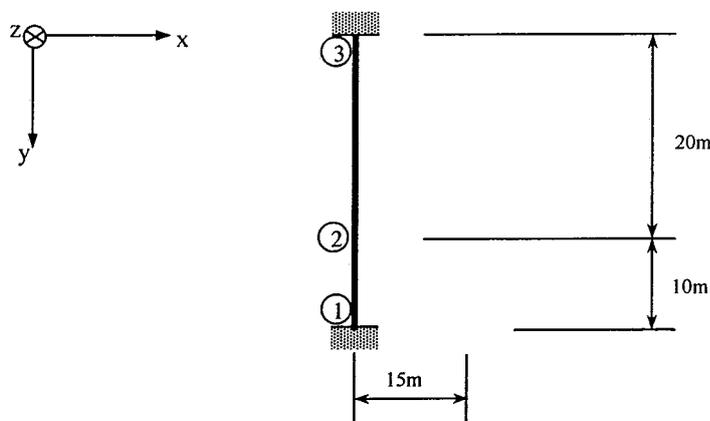
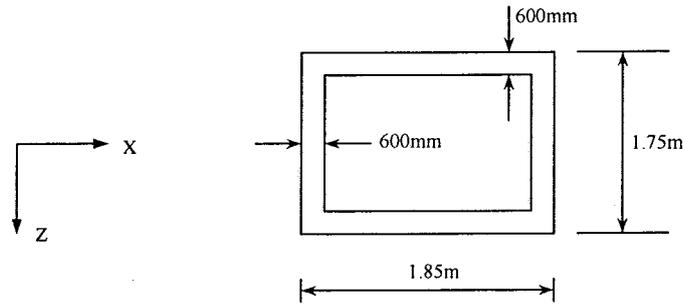
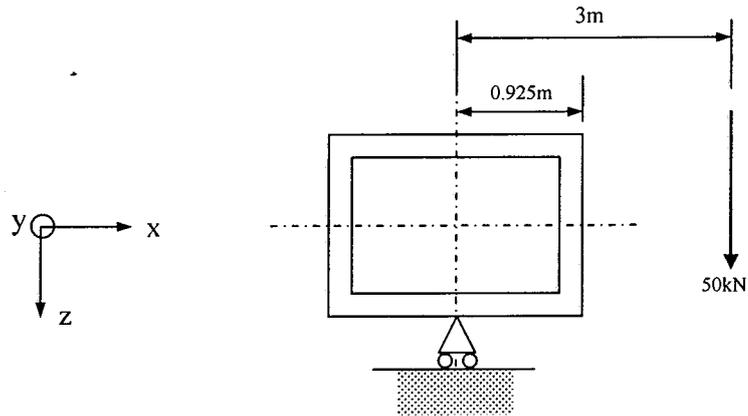

Figure 6
Figure 7
Figure 8
- (b) Figure 6 shows a grillage structure lying in x-y plane. A uniformly distributed load of  $7.5\text{kN/m}$  in the direction of z-axis (pointing towards the paper) acts along member 1-2 and 2-3. Points 1 and 3 are fixed. Cross-section for all the members in the grillage is as shown in Figure 7. By using the element connectivity data in Table 1, obtain the structure stiffness equation for the grillage based on matrix method. If point 2 is next prevented from moving in z-direction and subjected to additional twisting load as shown in Figure 8, calculate the twisting and rotational angle at point 2 (note that axis y is pointing away from the paper). Assume elastic modulus as  $E = 30\text{GPa}$  and shear modulus as  $G = 12.5\text{GPa}$ . Make use of Appendix 1 in your calculation.